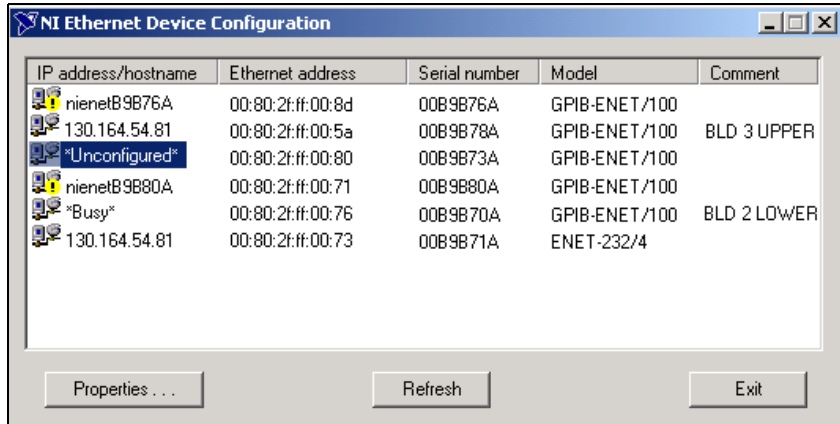

Figure 3-1. NI Ethernet Device Configuration Utility
- The **NI Ethernet Device Configuration** window displays a list of National Instruments Ethernet devices found on your subnet, sorted by model. Figure 3-1 shows an example of this display. The listed devices can be in one of four possible states, as indicated in the **IP address/hostname** column:
1. Locate the device that has a problem. This is indicated by an (!) on the device icon, as shown previously in Figure 3-1.